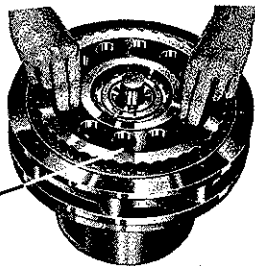

Fig. 9
speed side can be easily lifted out with both hands (Fig. 9).
- 7) Insert top disc in such a way that the mark is 180° opposed to the marking of the bottom disc (Fig. 9).